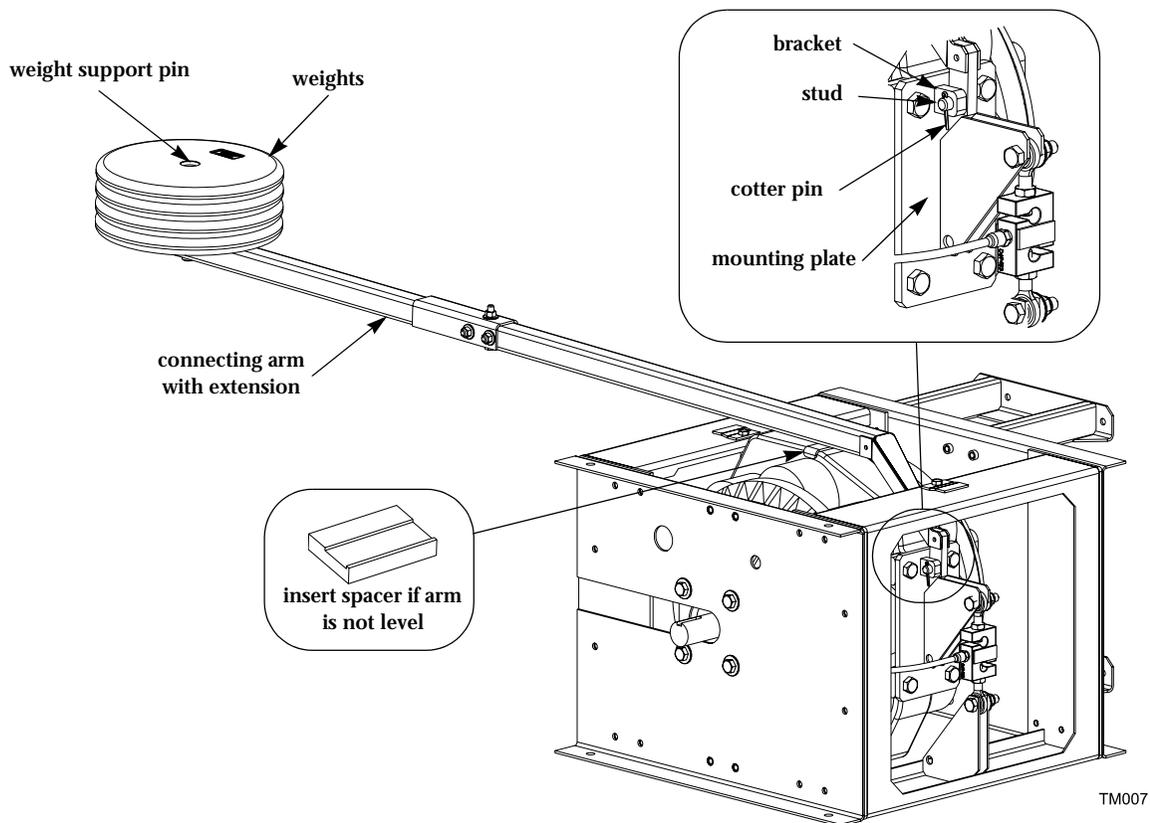

Figure A-7: Install Calibration Arm and Weights
- 6 Install the calibration arm and weights. Refer to step 7 and Figure A-7 on page A-5.